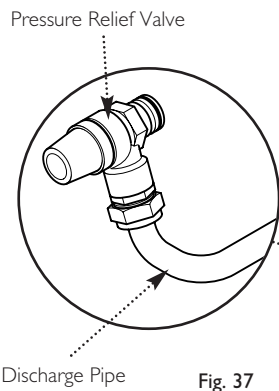

Fig. 37
10.4 Fitting the Pressure Relief Discharge Pipe (Figs. 37 & 38)
4. Utilising one of the sealing washers, connect the discharge pipe to the adaptor and tighten the nut (Fig. 37).